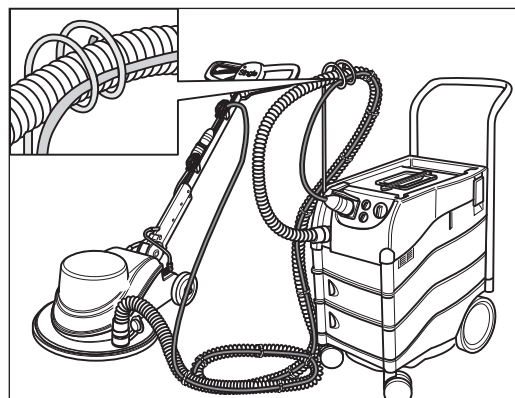

Fig. 26 Attach the extension cable to the vacuum cleaner suction hose.
**To make work easier, you can attach the extension cable to the suction hose of the vacuum cleaner with several cable binders. In this way you can ensure that the cable will not get caught up under the machine (Fig. 26). Use detachable cable binders for this purpose.**